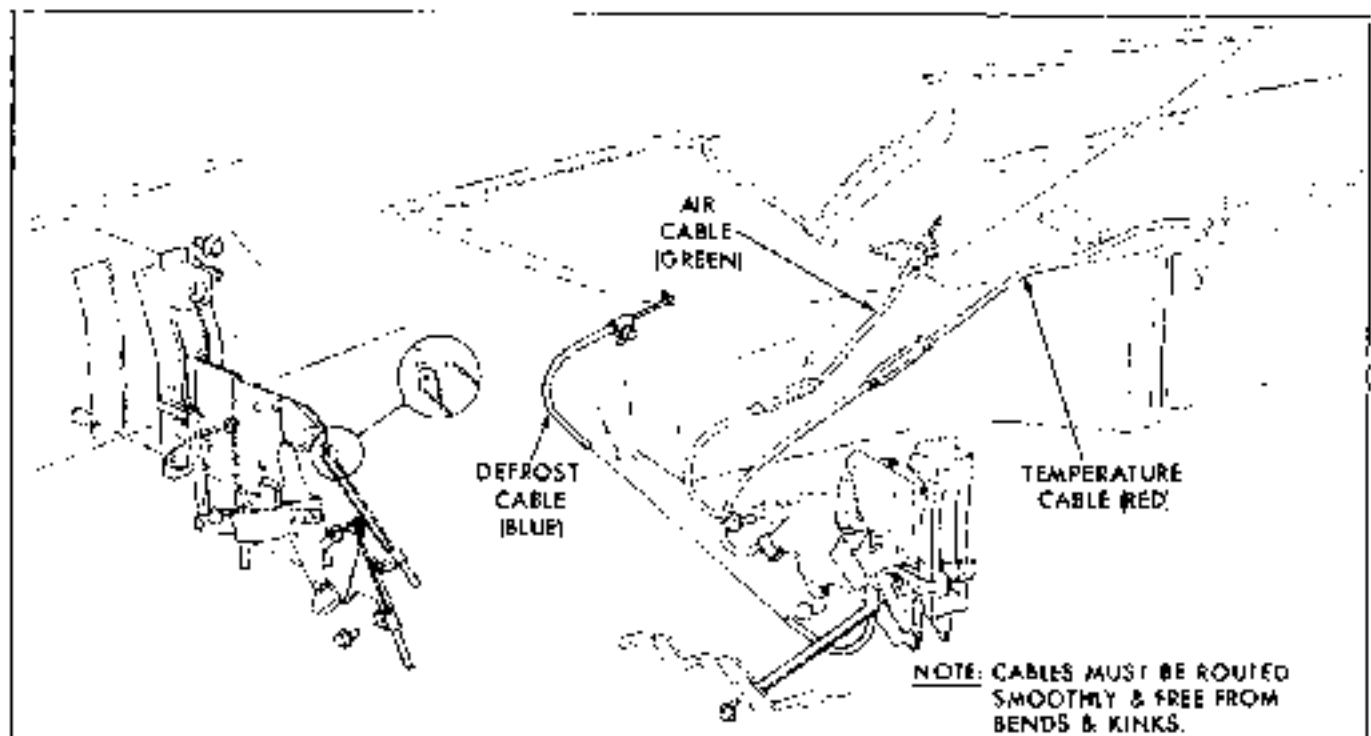

Fig. 1-2 Control Panel Cable Routing—Tempest
1. Remove screws retaining heater control panel to instrument panel and brace (Fig. 1-2).
2. Disconnect wires from blower switch (Fig. 1-2).
1. Remove glove box (Fig. 1-2).
2. Remove air control bowden cable from heater core and case assembly (Fig. 1-2).
1. Remove defroster control cable from heater core and case (Fig. 1-2).